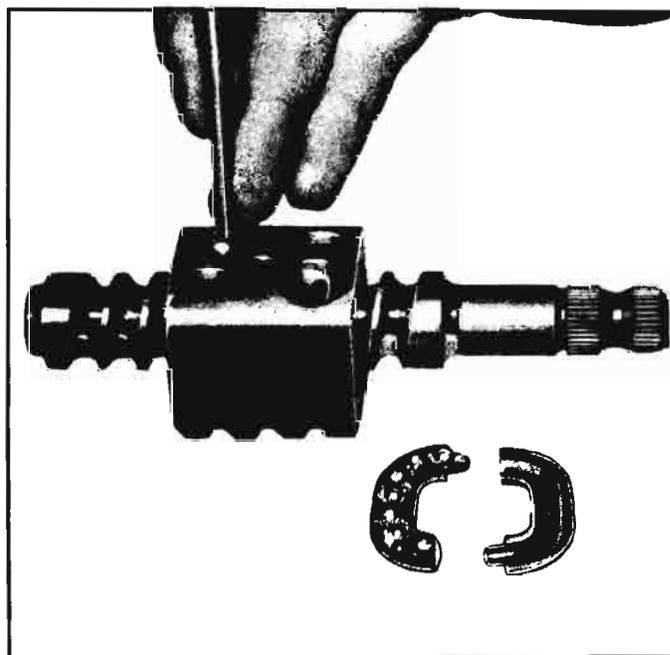

Fig. 4-16—Placing Balls in Nut
2. Count 48 balls into a suitable container. This is the proper number of balls for this ball nut. Drop 18 balls into each of two holes on the same side of nut (this operation may be performed from either side of nut, but two holes on the same side must be used, not two holes on same end). Turn the worm gradually away from hole being filled (fig. 4-16). Continue until all 36 balls are installed.